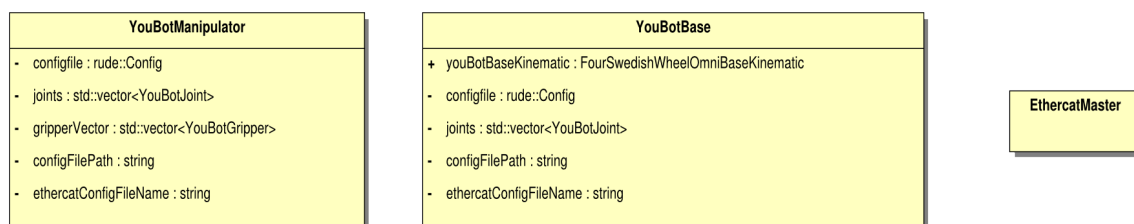

Figure 7.1: Main elements of the KUKA youBot API: `YouBotManipulator` and `YouBotBase`.
- The class `YouBotManipulator` represents the KUKA youBot arm as an aggregation of a series of joints and a gripper (see Figure 7.1).
- The class `YouBotBase` represents the KUKA youBot omni-directional platform (see Figures 7.1, 7.2).